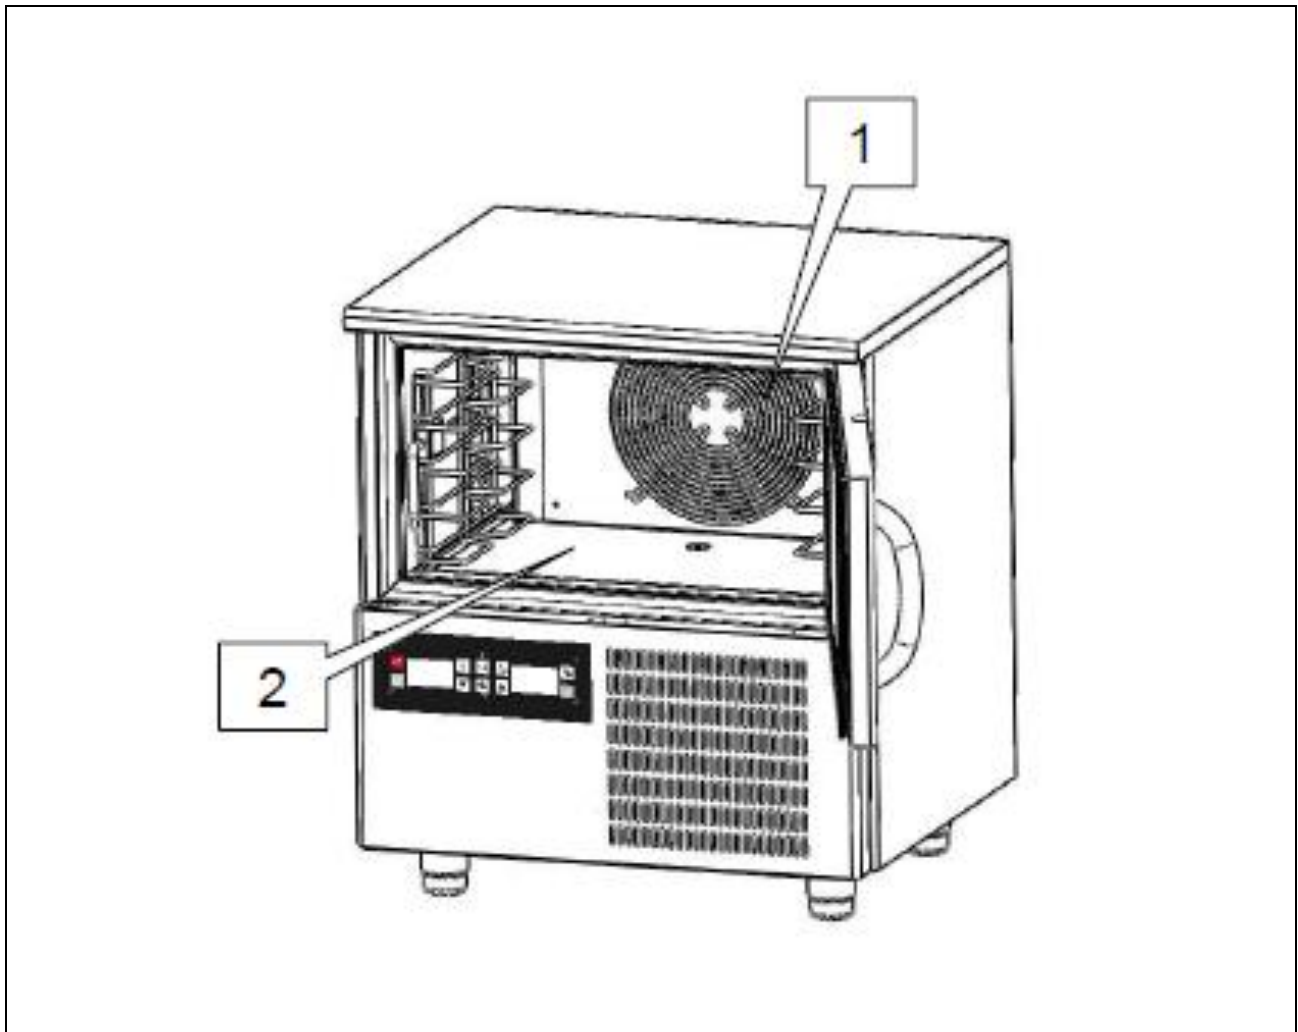

Fig. 4
- with obstructed air ducts (ref. 1 fig. 4);
- with the food to be processed placed against the ventilation grilles (ref. 1 fig. 4), air ducts, or on the bottom of the chamber (ref. 2 fig. 4).